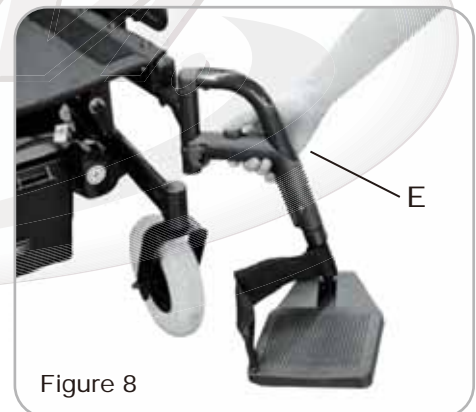

Figure 8
Press the Lever (E) on the Footrest Frame downwards, then take out the Footrest Frame by turning it outward.(See Fig. 8)